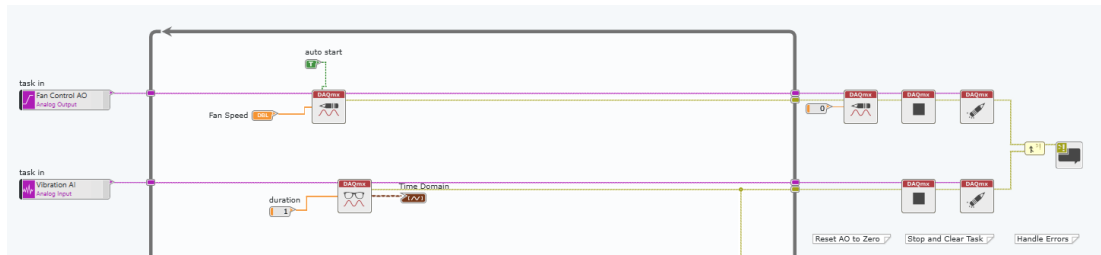

Figure 7-20 The task and error wire communicate information between each of the VIs in the code.
11. Wire the task and error wire through the code, as seen in Figure 7-20.